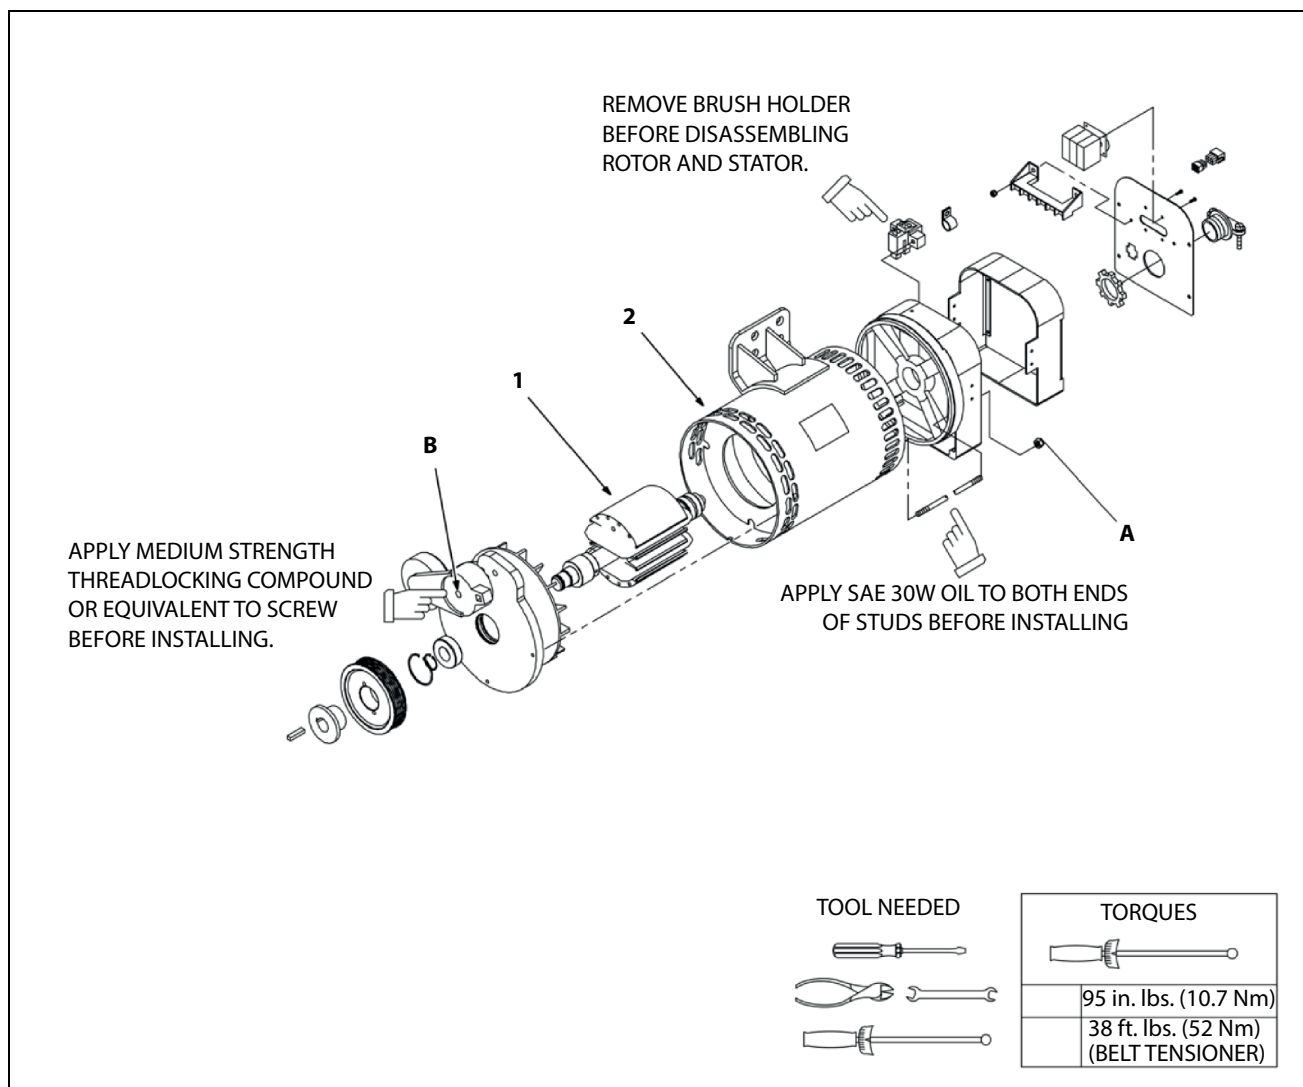

Figure 3-71. Generator Disassembly and Assembly
3. Disassemble generator parts shown in Figure 3-71.